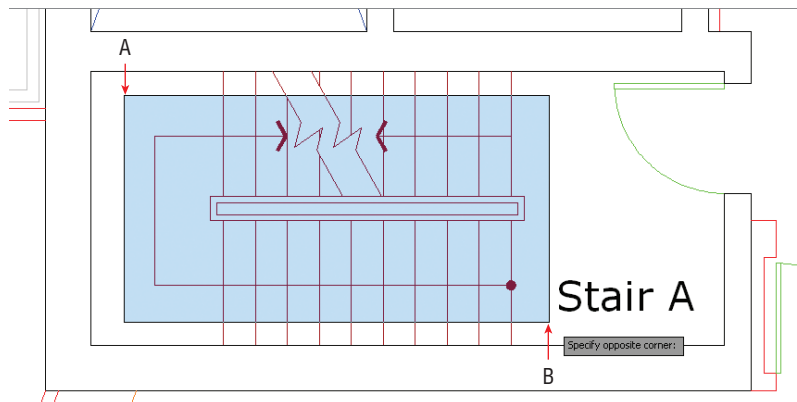

FIGURE 4.2 Drawing an implied window
- Click point A and then B, as shown in Figure 4.2. Observe that a transparent *implied window* appears between these points. The objects that are selected are only those completely contained within the borders of the blue window. This particular selection includes the stair arrows, handrails, and three lines representing stair treads near the break lines.